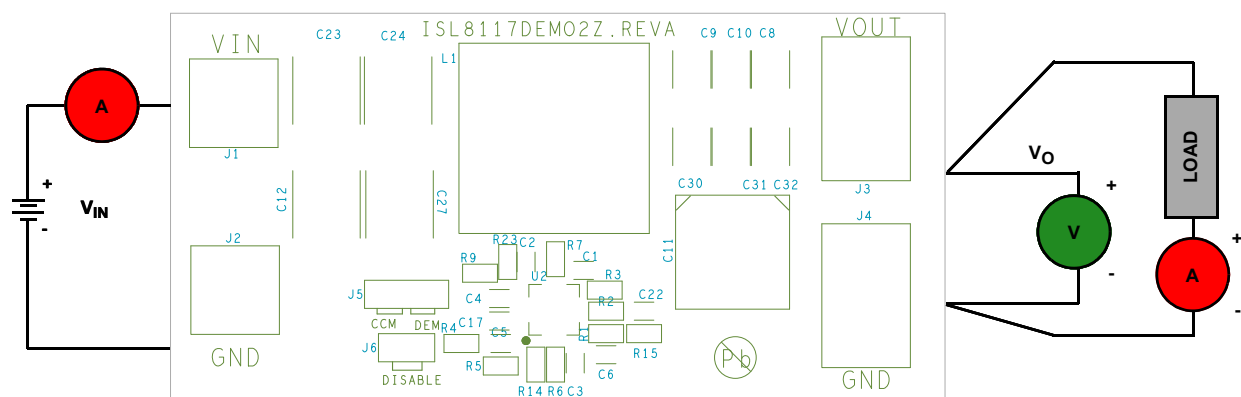

FIGURE 4. PROPER TEST SET-UP
1. Jumper J5 provides the option to select CCM or DEM. Please refer to Table 2 for the desired operating option. Ensure that the circuit is correctly connected to the supply and electronic loads prior to applying any power. Please refer to Figure 4 for proper set-up.
As shown in Figure 4 on page 3, 18V to 60V V_{IN} is supplied to J1 (+) and J2 (-). The regulated 12V output on J3 (+) and J4 (-) can supply up to 20A to the load. Due to high thermal efficiency, the demonstration board can run at 20A continuously without air flow in room temperature ambient condition.